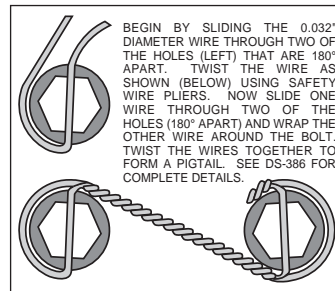

Figure 4. Safety Wire Diagram
- The hat/rotor assembly (7) has been pre-assembled at the factory using red *Loctite*® 271 on the mounting bolts and torqued to specification. For an added measure of security, the bolts may be safety wired using standard 0.032 inch diameter stainless steel safety wire as shown in Figure 4. Please refer to Wilwood's data sheet DS-386 (available at www.wilwood.com/Pdf/DataSheets/ds386.pdf) for complete safety wire installation instructions.